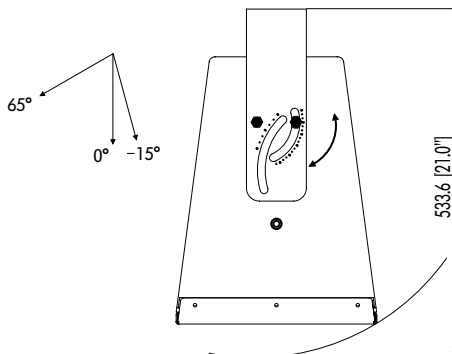

Fig. 5:
- one bolt is fitted to the 12 mm hole (c) and a second to the semi-circular slot (a) on each end of the bracket (Fig. 5/6). The vertical coverage angle can be set over a range of 80° (+65° to -15°) and defined by the resulting angle of the loudspeaker axis relative to the plane of the mounting surface. The angle can be read from the point on the scale which corresponds to the centre of the fixing bolt in slot (a).